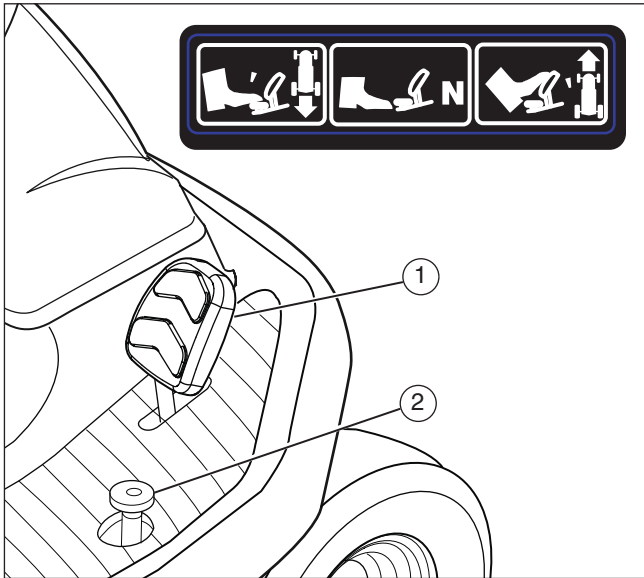

Figure 14
4. Slowly push the forward speed control pedal (1) to enable forward ground speed (see **Figure 14**).
2. Remove your foot from the forward speed control pedal (1) (see **Figure 14**).
3. Slowly push the reverse speed control pedal (2) to enable reverse ground speed.
1. Slowly remove your foot from the forward speed control pedal (1) or reverse speed control pedal (2) (see **Figure 14**). The forward speed control pedal or reverse speed control pedal will automatically return to the NEUTRAL position.
3. Release the speed control pedal to the NEUTRAL position (see Figure 14).
4. To go faster, move the speed control pedal to a faster speed (see **Figure 14**).
5. Move the speed control pedal to the desired speed settings (see **Figure 14**).